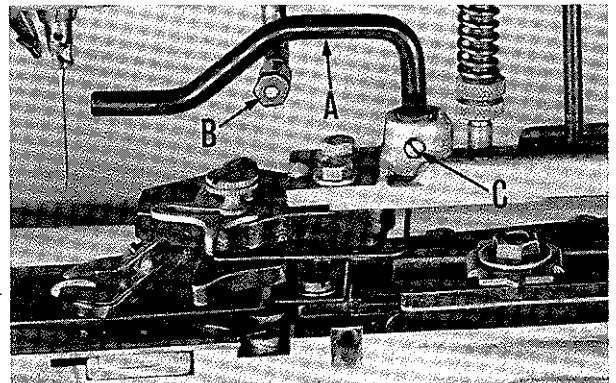

Fig. 10
Take machine out of stop position, and turn pulley in operating direction until button clamp is in its furthest position to the rear. At this point, there must be clearance between the button clamp lifting rod (A, Fig. 10) and the button clamp lifting roller (B). Adjustment is made by loosening screw (C) and moving rod (A) up. This will affect the height of the button clamp in relation to the feed plate as previously described, but for the normal setting of 1/2 inch, no interference between lifting rod and roller will occur.